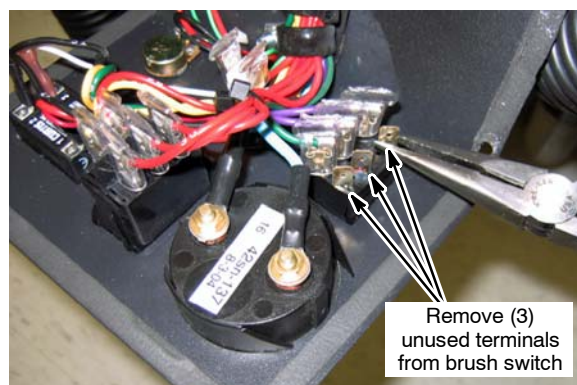

Fig. 19
On the control panel, remove the (3) unused terminals from the brush switch. This will eliminate possible interference between the switch and the cam rotation (Figure 19).